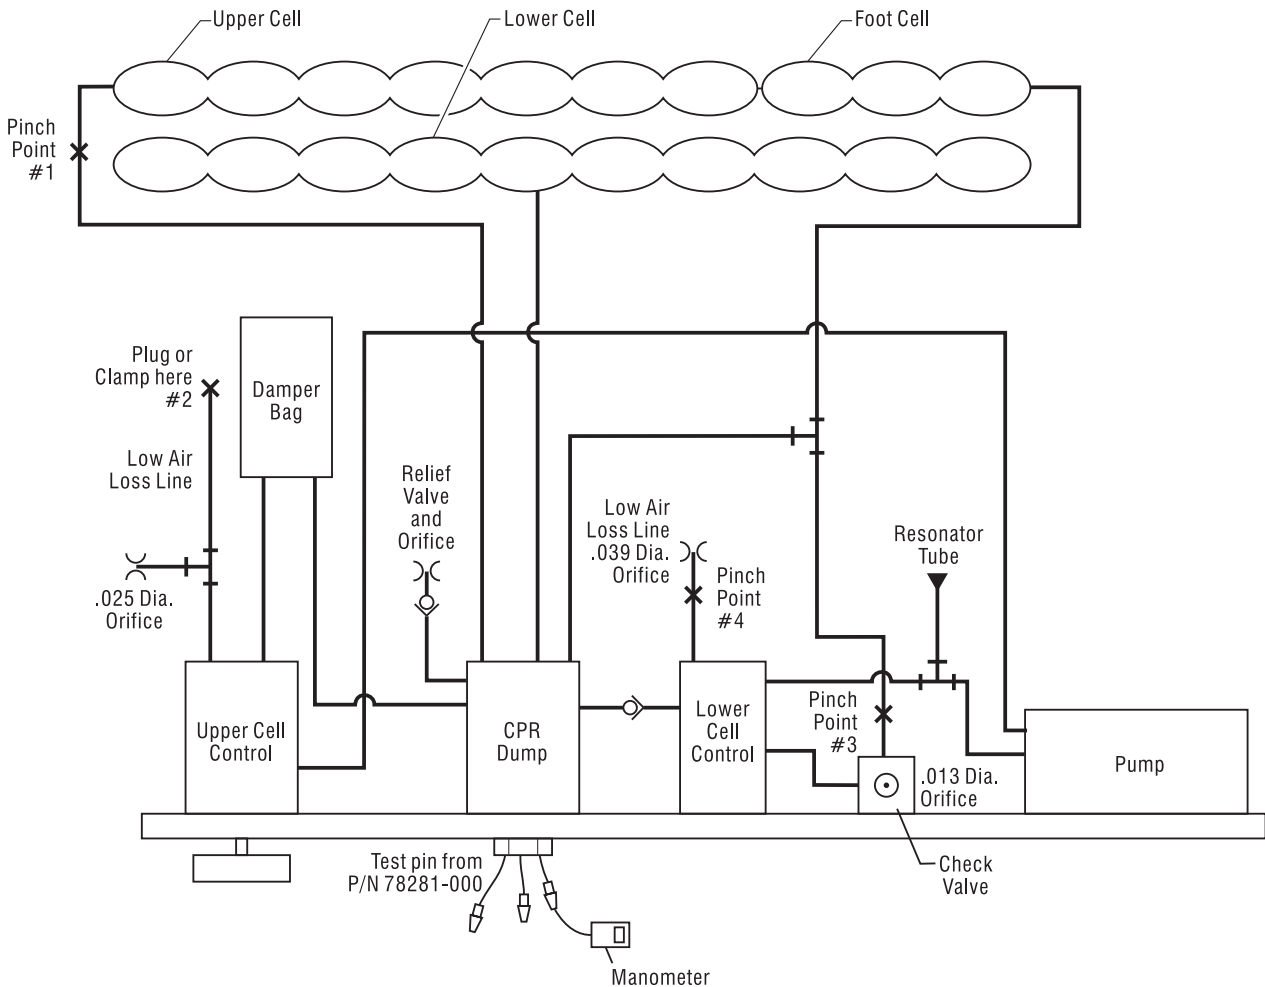

Figure 10—Mattress Air Flow/Pressure Diagram
3. Pinch the tubing between the outlet port from the foot check valve and the in-line tee (pinch point #3, fig. 10, p.17).
2. Pinch the tubing at pinch point #4 (fig. 10).
5. Pinch the tubing at pinch point #2 (fig. 10) and the manometer should indicate above the spec. If the pressure in the upper cell is within spec, the connection to the cell or the cell itself is leaking. If a soap test of the connection to the cell does not show a leak, replace the upper cell. If the pressure does not fall within spec when pinch point #1 is closed, proceed to step 6.
2. Clamp the low air loss line at point #4 (fig. 10).
- After completing the test, remove the clamp from point #4 (fig. 10) on the low air loss line.
3. Plug or clamp the low air loss line at point #2 (fig. 10, p. 17).
4. Pinch the 1/2" ID tubing at point #1 (fig. 10) using 8" needle nose pliers.
- After completing the test, remove the plug or clamp from point #2 (fig. 10) on the low air loss line.